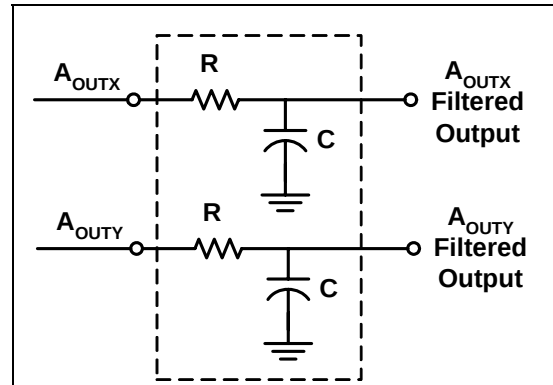

Figure 4: Low Pass Filter
**Low Pass Filter:** An external low pass filter is useful in low frequency applications such as tilt or inclination. The low pass filter limits the noise floor and improves the resolution of the accelerometer. **When designing with MEMSIC ratiometric output accelerometers (MXRxxxx series), it is highly recommended that an external, 20 Hz low pass filter be used to eliminate internally generated periodic noise that is coupled to the output of the accelerometer.** The low pass filter shown in Figure 4 has a  $-3\text{dB}$  breakpoint given by the equation:  $f = \frac{1}{2\pi RC}$ . For the 200 Hz ratiometric output device filter,  $C=0.2\mu\text{F}$  and  $R=39\text{k}\Omega$ ,  $\pm 5\%$ ,  $1/8\text{W}$ .